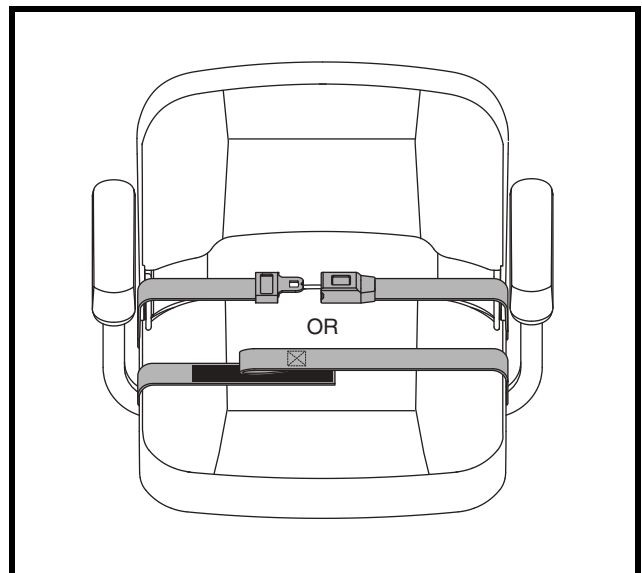

Figure 20. Positioning Belt - Metal Tab Style or Reusable Hook and Loop Fastener Style
1. Insert the metal tab on the right side of the belt into the plastic housing on the opposite strap until you hear a “click.” See figure 20.
1. Align the two sides of the belt placing the looped-end side directly above the coarser side (“hook”) of the opposite belt. Press firmly together to fasten. See figure 20.